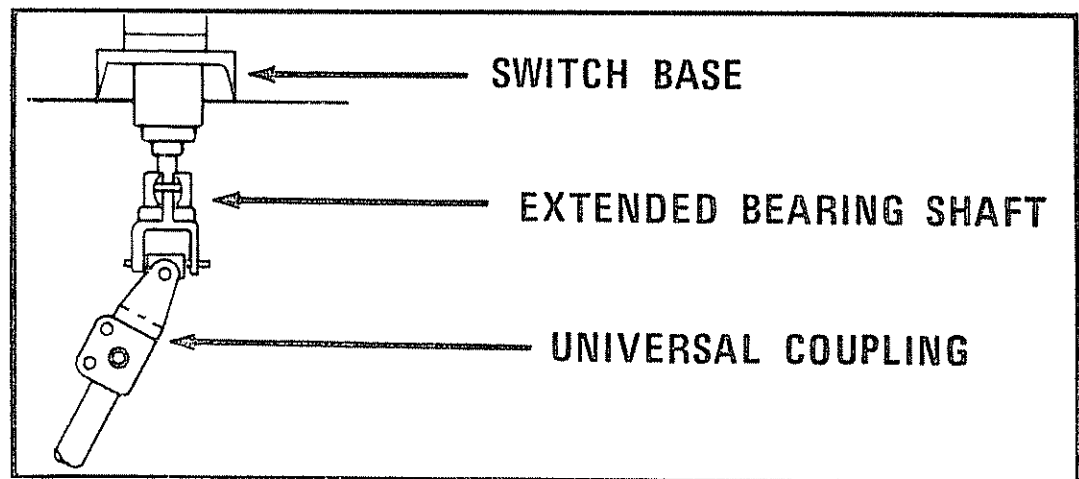

FIGURE 5
6. Mount the hinge and blade assembly as directed in figure 5. Be sure that the match marks made earlier are aligned.
**FIGURE 5** Note: Double interphase switch arm shown; switch may also be equipped with a single arm as specified. Refer to Op. Mech. drawing for proper rotation of switch arm. This figure is for illustration only. (3000 AMP SHOWN)
- E. Attach universal coupling to extended switch bearing shaft. (See Fig. 5)